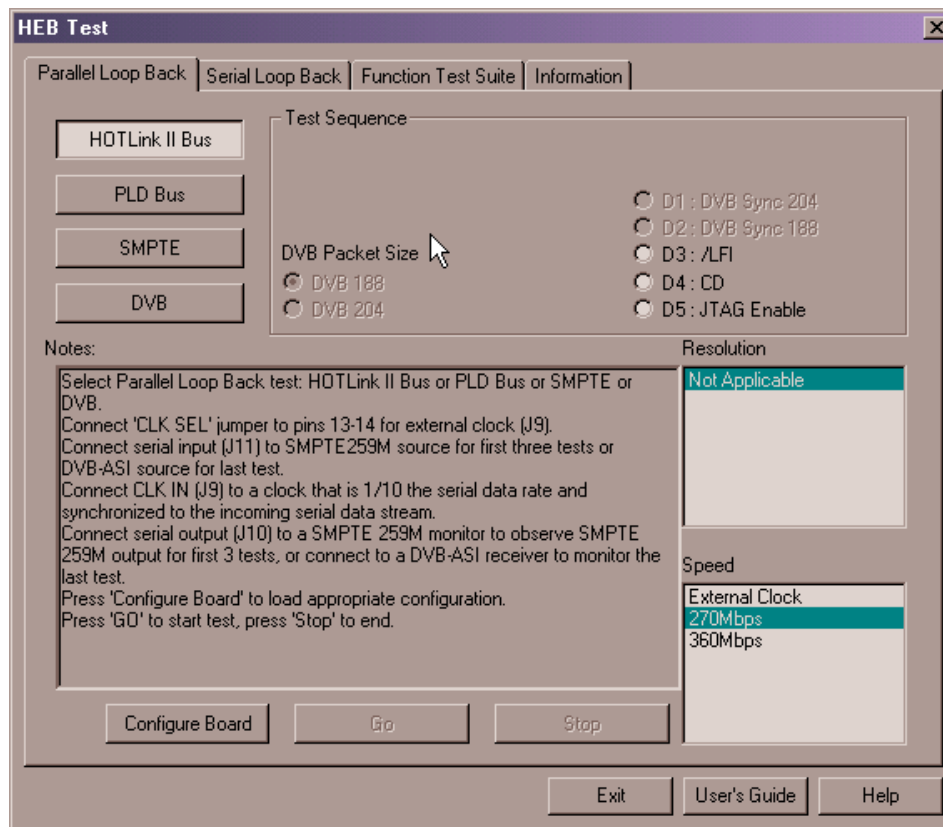

Figure 5-1. HEB Test GUI Window
- Click on the HEBTest icon on your Desktop or Quick Launch taskbar. This will open the GUI interface for performing the tests as shown in Figure 5-1. The default window of the GUI is the Parallel Loop Back test window.
- First select which set of tests you would like to run by clicking on the appropriate tab as mentioned in the previous section and shown in *Figure 5-1*. Within each tab there are four different methods of running that particular test. Choose the preferred method by pressing the appropriate button.